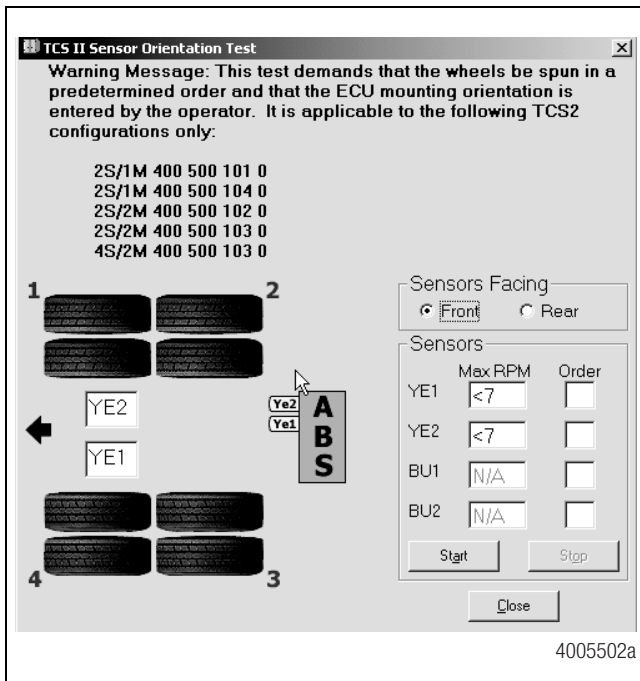
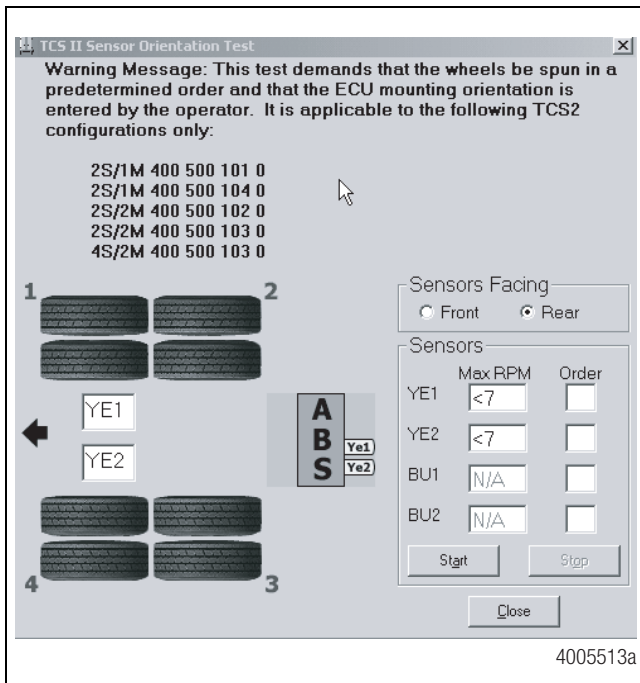

Figure 33
Figure 34
4. At the **Trailer Main Menu**, click on **Component Test**, then select **Sensor Orientation Test** to display the **Sensor Orientation Test** screen. Figure 33.
- Click on **Front** or **Rear** in the **Sensors Facing** field to select the mounting orientation of the ECU/modulator valve assembly. Refer to Figure 33 and Figure 34 for illustrations of the ECU mounted with sensors facing forward and rear. The correct mounting orientation must be selected prior to starting the test.
- Follow the screen prompts, starting with 1, to rotate each sensed wheel end at a rate of 1/2 revolution per second. This rate equals a wheel speed of approximately 4 mph (7 kph). As each sensed wheel is rotated, check the color of the sensor identification block on the screen for results. Sensor identification boxes are located in the bottom left portion of the **Sensor Orientation Test** screen. Figure 34.
- Verify there is sensor output. If there is no sensor output, verify that a tone ring has been installed and that the sensor is pushed all the way in against the tone ring. If the problem persists, contact Meritor WABCO (800-535-5560). Sensor output appears in the Sensors field located in the bottom right portion of the **Sensor Orientation Test** screen. Figure 33 and Figure 34.